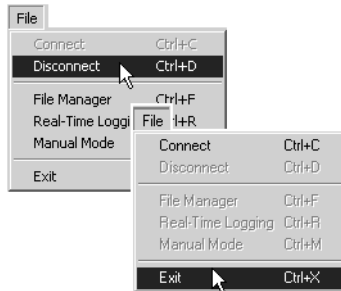

Figure 4-7. Click Disconnect then Exit
10. Continue with other operations. Or, click **File ▶ Disconnect**, then **File ▶ Exit** to quit PC-CDU (Figure 4-7).